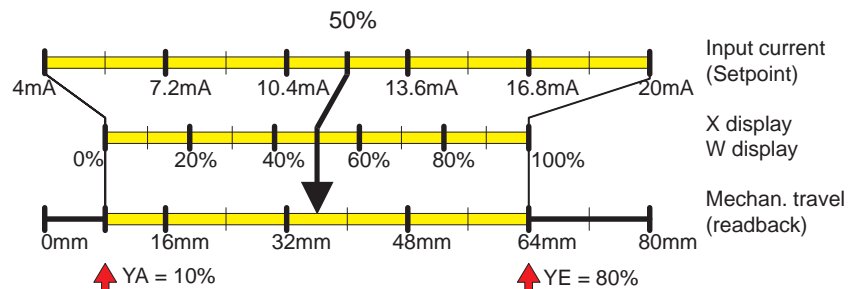

Figure 4-10 Dependence of travel on normalization and YA and YE as shown by an 80 mm linear actuator
31.YA	<p>Start of manipulated variable limiting (see Figure 4-10)</p> <p>and</p>
32.YE	<p>End of manipulated variable limiting (see Figure 4-10)</p> <p>With parameters 31.YA and 32.YE the mechanical travel (from stop to stop) is limited to the set values. In this way the mechanical correcting range of the actuator can be limited to the active flow and integral saturation of the leading controller can be avoided.</p>
33.YNRM	<p>Normalization of manipulated variable (see Figure 4-10)</p> <p>Limiting the manipulated variable (by YA and YE) produces two different scales (MPOS and FLOW) for the display and the position feedback via the current output.</p> <p>The MPOS scale shows the mechanical position (0 to 100 %) between the hard stops of initialization. This is not affected by parameters YA and YE. Parameters YA and YE are displayed in MPOS scale.</p> <p>The FLOW scale is the normalization (0 to 100 %) to the range between YA and YE. The setpoint w (0 to 100 %) always refers to this range. This results in a display and position feedback Jy that are proportional to the flow (even if valve characteristic curves are used).</p> <p>In order to calculate the system deviation the setpoint is also displayed in the relevant scale.</p>